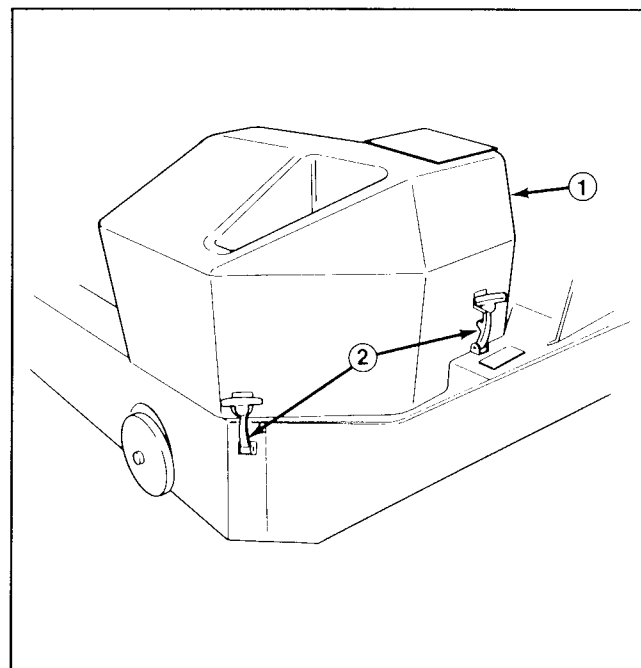

Figure 10
1. Clutch cover 2. Latches (3)
2. Unhook latches securing clutch cover to chassis, and remove cover (Fig. 10).